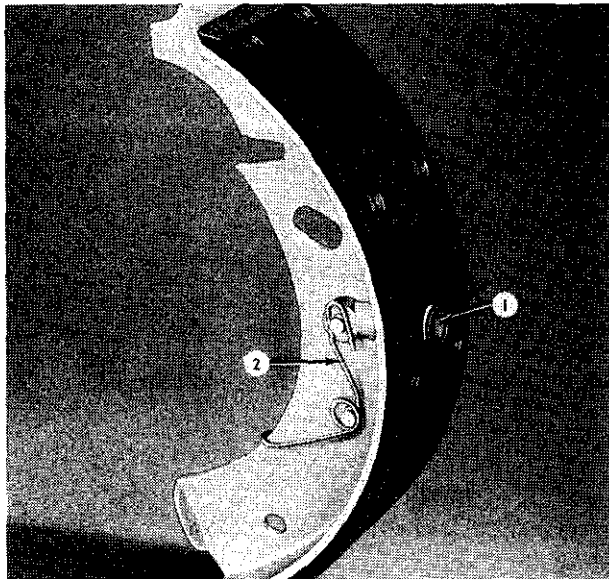

FIG. 372
The contact plug actuating (pressure) spring as used on the forward brake shoe assemblies is shown in Fig. 372. This external spring (2) replaces the small coil spring formerly used inside the contact plug (1) and also serves as a retainer to hold the adjusting lever in place on the brake shoe web.